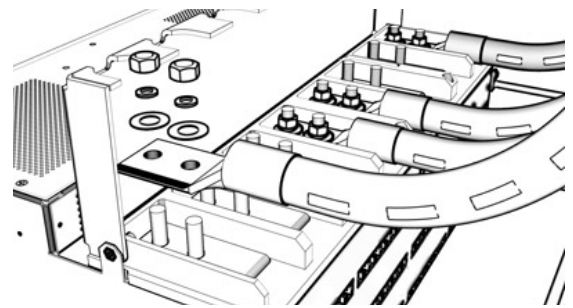

Figure 5. RTN Input Connections
Step 2. Install the RTN (+) cables/lugs to the threaded RTN (+) input studs as shown in Figure 5. Tighten hardware to 250 in-lbs.